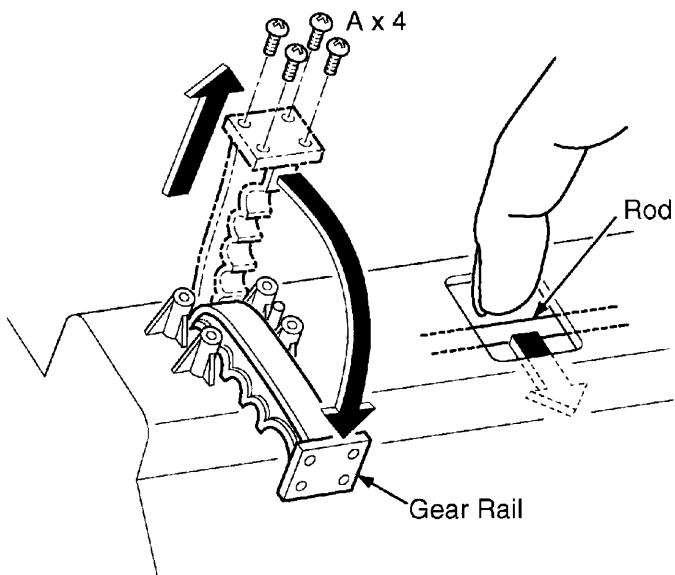

Figure-10
1. Remove the gear rail mounting screws (A 4 pcs.) as shown in Figure-10.